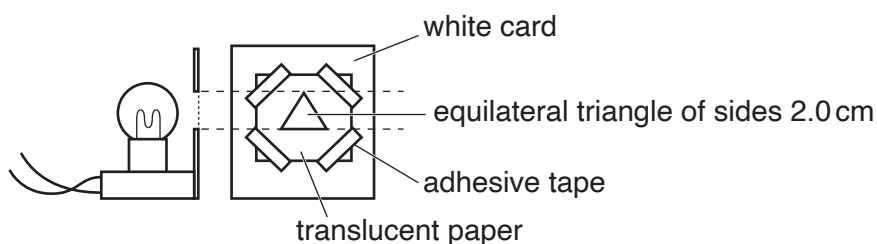

Fig. 3.1
- 1 The object is made by cutting a hole in the shape of an equilateral triangle of sides 2.0 cm in the card (see Fig. 3.1). The triangular hole must be covered with translucent paper (e.g. tracing paper). The orientation of the triangle must be as shown in Fig. 3.1.